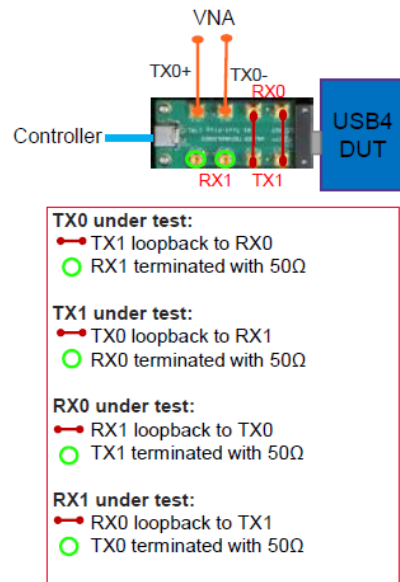

Figure 207 SMP test fixture - Tx/Rx lane switching
- 8 In case of SMP test fixture, Tx/Rx lane under test can be switched as shown in Figure 207.